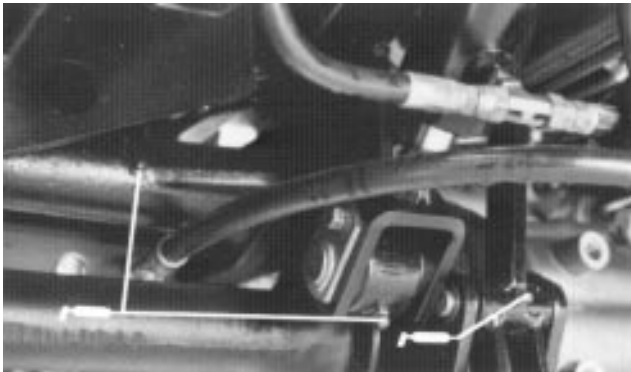
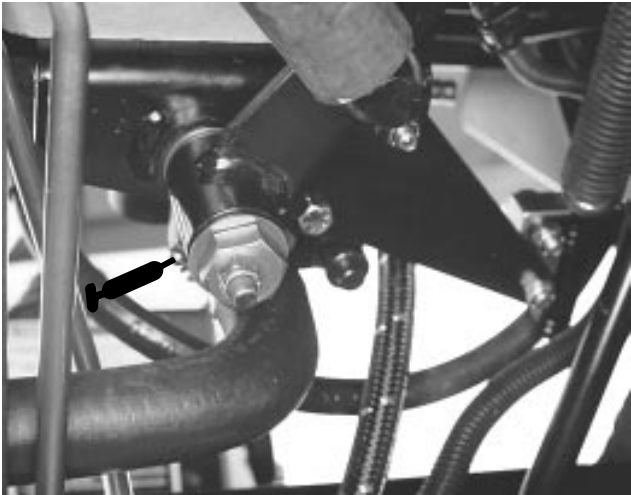

Figure 21
Figure 26
GREASING (Fig. 21–35)
1. The grease fittings that must be lubricated are: Lift arm pivot (2), lift cylinder (4), brake arm pivots (2) (Fig. 21); brake pivot (1), brake pivots (2) (Fig. 22); traction pedal pivot (1) (Fig. 23); engine to pump drive shaft (2) (Fig. 24 & 25); traction adjuster (1) (Fig. 26); P.T.O. Bearing (Fig. 27).